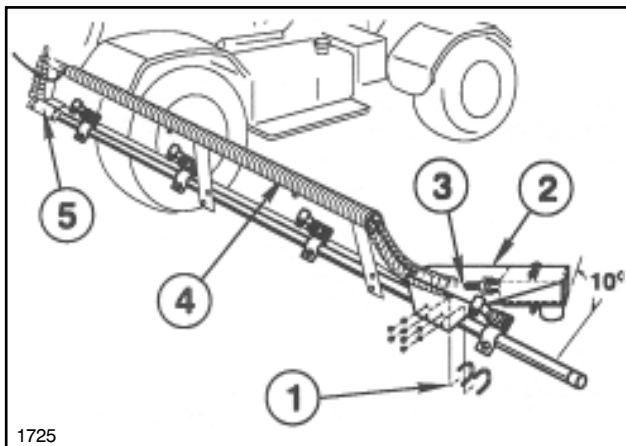

FIG. 1
1. Mount the Sensor Bracket to the Boom Pipes between the Vertical Support and the last Nozzle, using two (2) "U" Bolts, (4) locknuts, and flat washers. The Brackets should be tilted up 10°. Right side is shown in FIG. 1.
3. Route the Sonar Cord along the top of the Boom Support and toward the center of the Vehicle. Install Corrugated Split Tubing over Sonar Cable and Boom Support. Use Tie Straps to secure the Sonar Cords and Corrugated Tubing to the Boom Support at each end and at the center. Allow sufficient slack in the Sonar Cord at the Boom Hinge to permit the Boom to pivot freely. See FIG. 1.